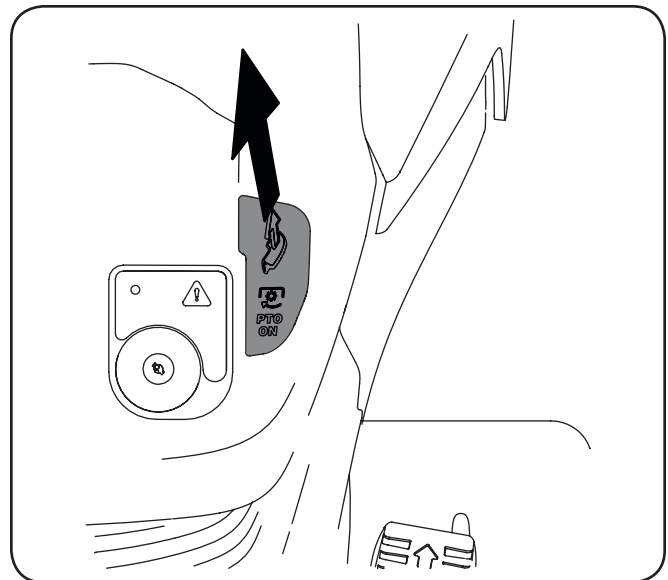

Figure 5-3
2. Pull the PTO/Blade Engage lever upward into the ON position. See Fig. 5-3.